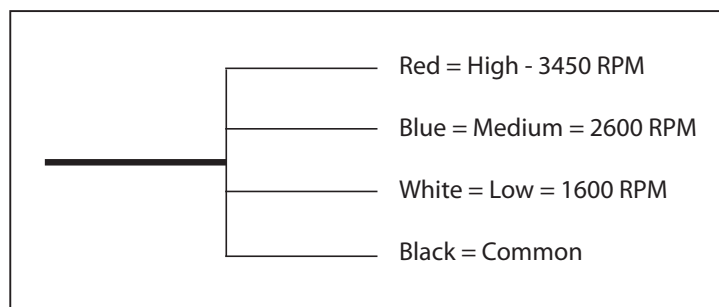

Figure 2
The Badu EcoM3 consists of an operator control panel and the system electronics that drive the motor along with a ten (10) foot remote controller cord. Speeds can be changed by the controller at the top of the motor or remotely by use of a remote controller (External controller not provided, available through Speck Pumps). This pump can also be plugged into an external controller, such as a time clock, to meet all existing state or local codes. Figure 2: A 3 Channel time clock with potential free contacts. (Also called “dry contacts”) A device using “momentary switches” would also work. *NOTE: If remote controller cable is not used, the wiring needs to be isolated. The ends MUST NOT TOUCH or the speeds may be affected*